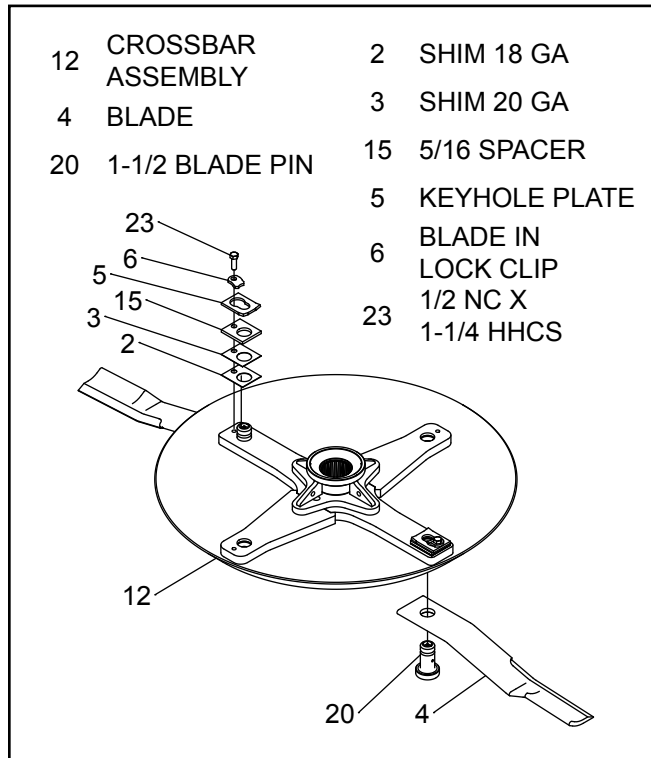

Figure 13. Blade Removal
2. Remove blades from crossbar as shown in Figure 13.